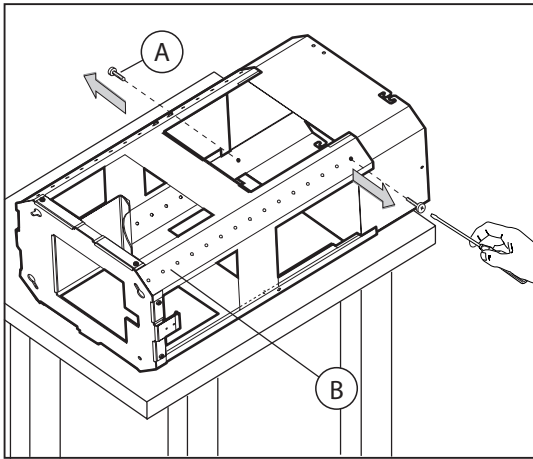

Fig.2
-Remove the structure from the packaging and remove the 2 screws **A** to separate the upper part from the lower part (Fig.2).